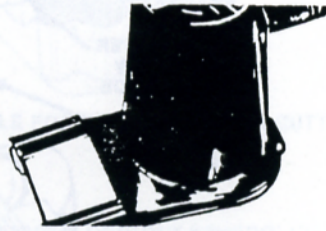

FIG. 39. TYPICAL WORKLIGHT & MAGNIFYING LENS.
- (1) Magnifying the cutting area may prove helpful during delicate sawing procedures. This is done by placing a magnifying lens over the work light's front portion.
- (2) A protective lens cover which prevents scratching should be placed around the magnifier when it's not being used. See Fig. 39.